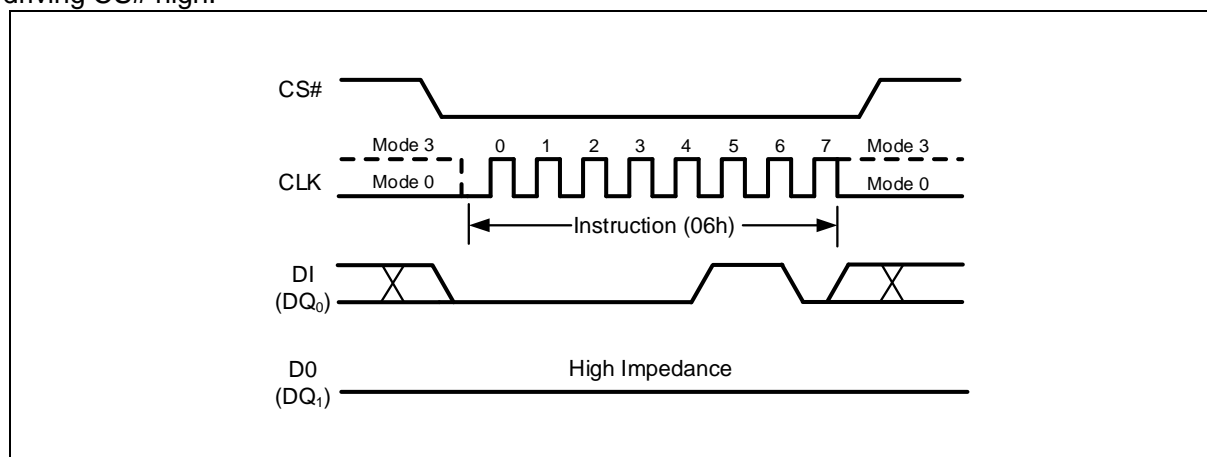

Figure 6 Write Enable Instruction for SPI Mode
Instructions vary in length from a single byte to several bytes and may be followed by address bytes, data bytes, dummy bytes (don't care), and in some cases, a combination. Instructions are completed with the rising edge of edge CS#. Clock relative timing diagrams for each instruction are included in Figure 6 through Figure 48. All read instructions can be completed after any clocked bit. However, all instructions that Write, Program or Erase must complete on a byte boundary (CS# driven high after a full 8-bits have been clocked) otherwise the instruction will be ignored. This feature further protects the device from inadvertent writes. Additionally, while the memory is being programmed or erased, or when the Status Register is being written, all instructions except for Read Status Register will be ignored until the program or erase cycle has completed.
The Write Enable (WREN) instruction (Figure 6) sets the Write Enable Latch (WEL) bit in the Status Register to a1. The WEL bit must be set prior to every Page Program, Quad Page Program, Sector Erase, Block Erase, Chip Erase, Write Status Register and Erase/Program Security Sectors instruction. The Write Enable (WREN) instruction is entered by driving CS# low, shifting the instruction code “06h” into the Data Input (DI) pin on the rising edge of CLK, and then driving CS# high.